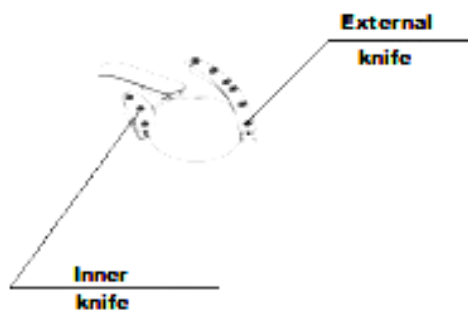

Figure 7. Diagram of knives
- check on several targets that the target can pass freely under the inner and outer cutting edges of the knife (see figure 7) and is not destroyed by the carousel plate.